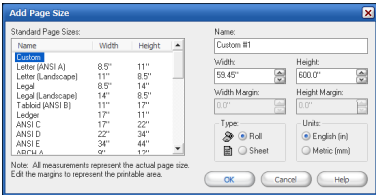

Figure 8—Add Page Sizes
1. Click **Add** on the **Page Size** tab of the **Configure Printer** dialog. This opens the **Add Page Size** dialog (see Figure 8).
1. Highlight the **Page Size** you want to edit, and click **Edit** on the **Page Size** tab of the **Configure Printer** dialog. This opens the **Edit/Add Page Size** dialog (see Figure 8).